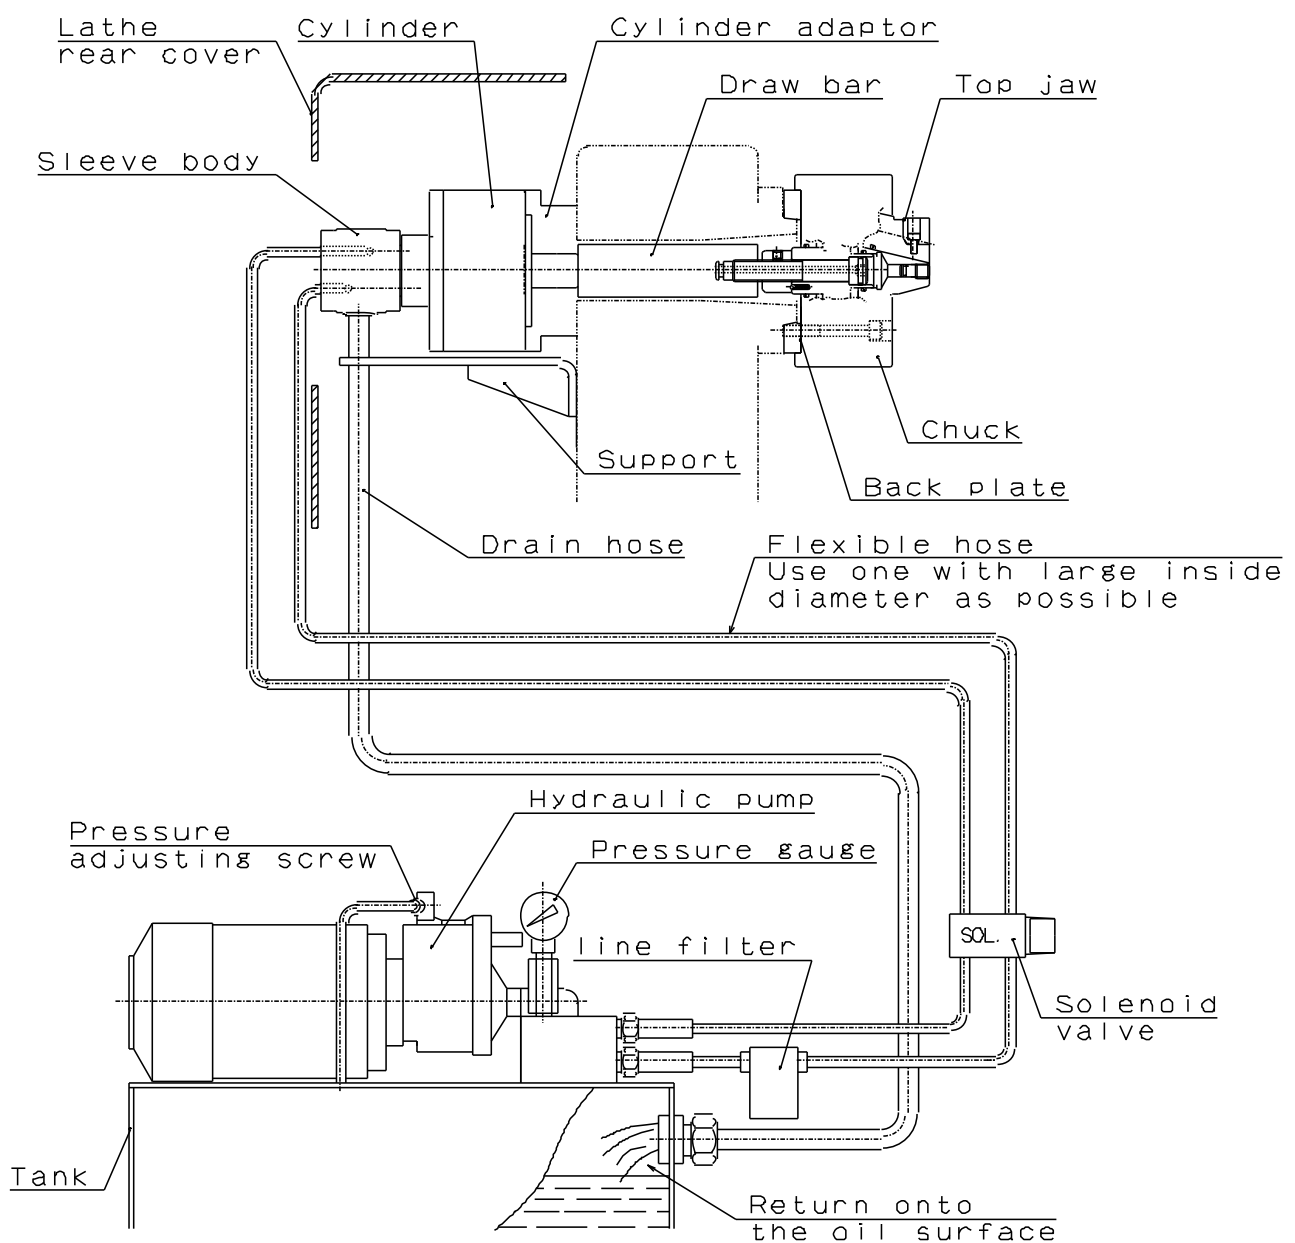

Fig.9
- The end of the hose is physically above the oil level. (Refer to Fig.9)